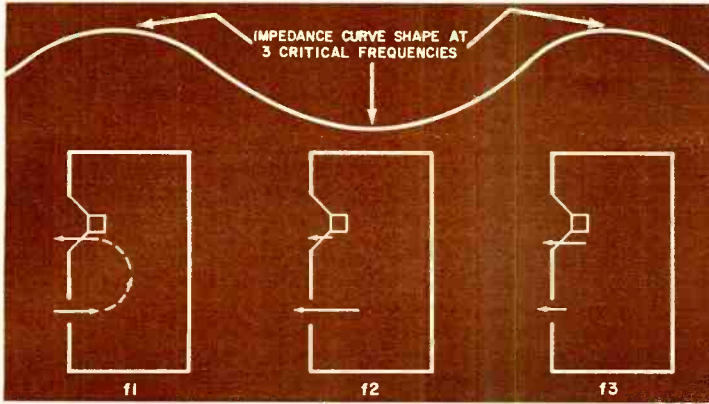

Fig. 3. Behavior of cone and port air at three critical frequencies. Lengths of arrow are rough indication of relative outputs from each.
Fig. 3. Time-setting "hooks" are shown in (A). The hooks should clear the negative pad when not depressed. The cell clip is shown at (B) and is made of 0.01" brass sheeting.
At lower frequencies, the air in the box acts progressively "stiffer." Finally, at the lower critical frequency, the air in the box and the air in the port move as if all were connected in series with the cone (Fig. 3). As the cone, largely undamped at this frequency, moves in, the air in the port moves out. The port radiation is  $180^\circ$  out of phase with the cone radiation. This, coupled with the normal drop in cone output below resonance, produces a frequency response curve that falls off rapidly at 18 dB/octave below the cutoff frequency. The cut-off frequency should be set low enough to give a satisfactory bass response.